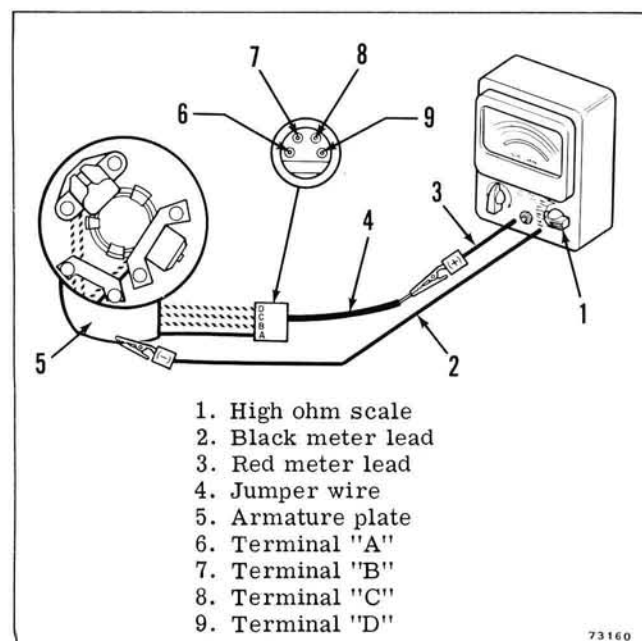

Figure 4-18. Sensor Coil Shorts to Ground
e. To test for shorts to ground, calibrate the ohmmeter to high ohm scale. Connect the black meter lead (-) to the armature plate (ground). Attach the red meter lead (+) to the "C" terminal jumper wire in the connector, then to the "B" terminal. See Figure 4-18. Any needle movement indicates the sensor coil or leads are shorted to ground. A shorted sensor must be replaced, or the grounded lead repaired to remove the shorted condition.